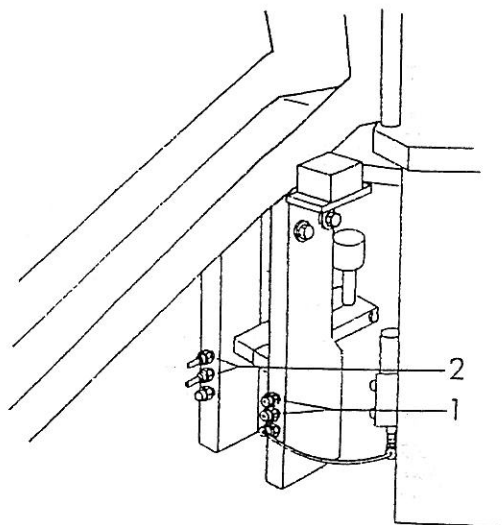

Fig.10.1.2
- Mount the caps supplied onto the air nozzles 1 fig. 10.1.2.
- Connect the compressed air pipes 1 fig. 10.1.2 for the extraction cylinder;
- Connect compressed air pipes 2 fig. 10.1.2.